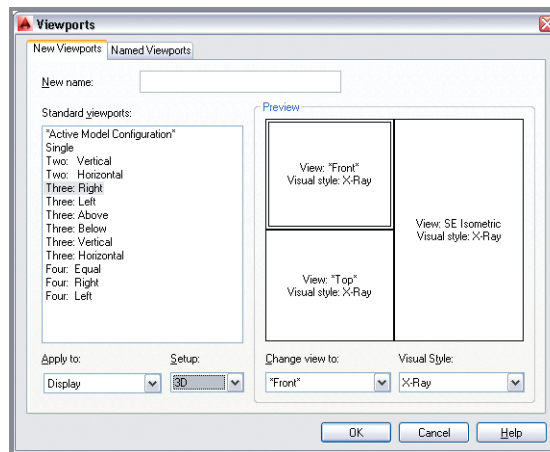

FIGURE 16.8 Configuring viewports
2. Type `VPORTS`, and press Enter. In the Viewports dialog box that appears, select `Three: Right` in the Standard Viewports list. Open the Setup drop-down menu, and select `3D` (see Figure 16.8). Click OK.